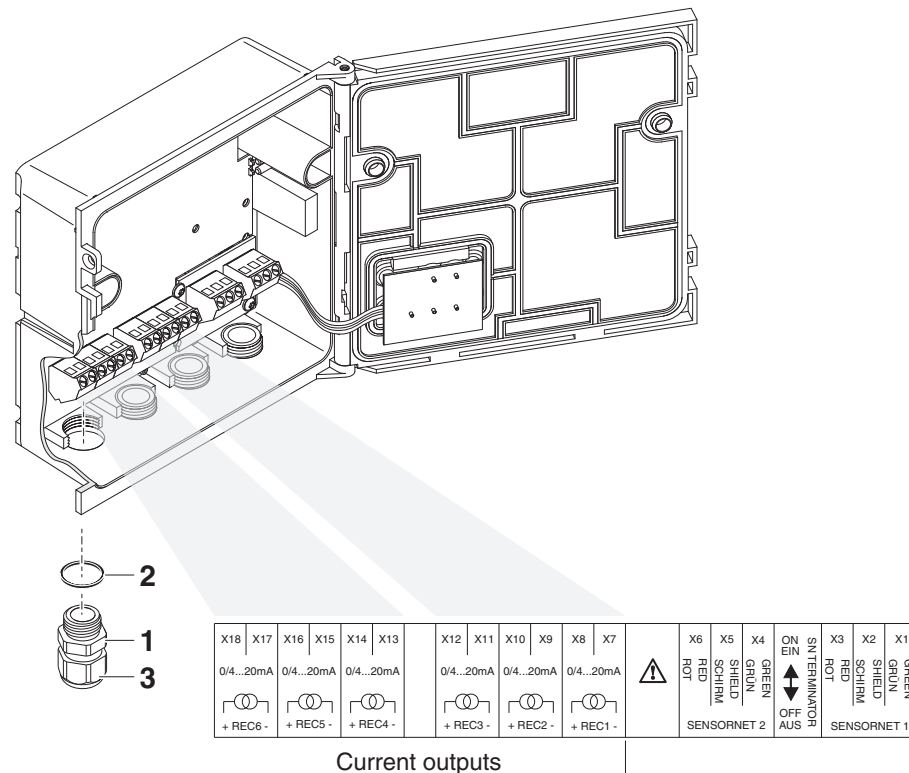

Fig. 3-1 Terminal strip with the current connections
- 3 Screw the cable gland (pos. 1 in Fig. 3-1) with the sealing ring (pos. 2) into the module housing.
- 4 Loosen the coupling ring (pos. 3 in Fig. 3-1).
- 7 Tighten the coupling ring (pos. 3 in Fig. 3-1).